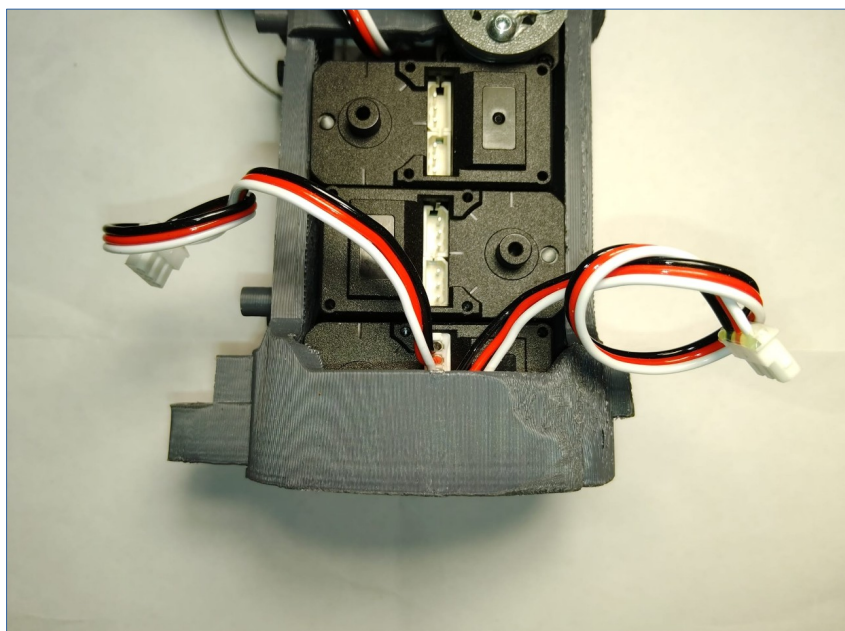

Figure 5.9: The cables connected to the lowest servo motor must exit from above
4. Make sure that all servo motor control cables are disconnected except those of the lowest servo motor. The cables of the lowest servo motor must be routed out from above, as shown in figure 5.9